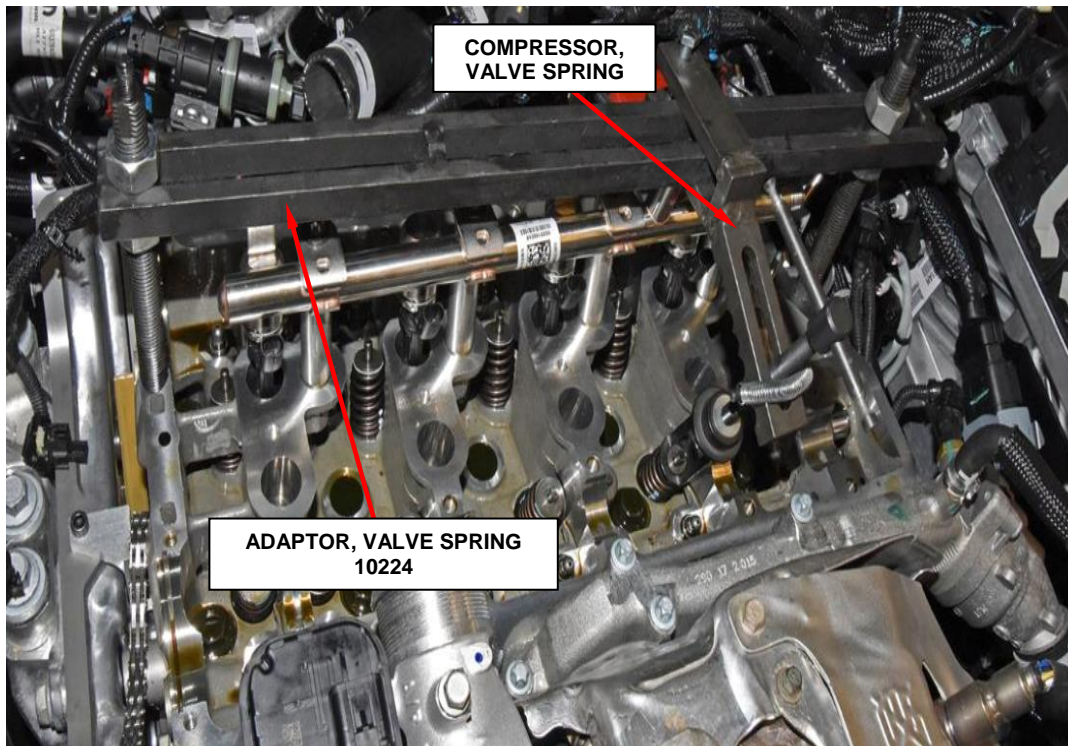

Figure 26 – Valve Spring Compressor
65. Install the Adapter, Valve Spring 10224 on the Compressor, Valve Spring MD998772A (Figure 26).